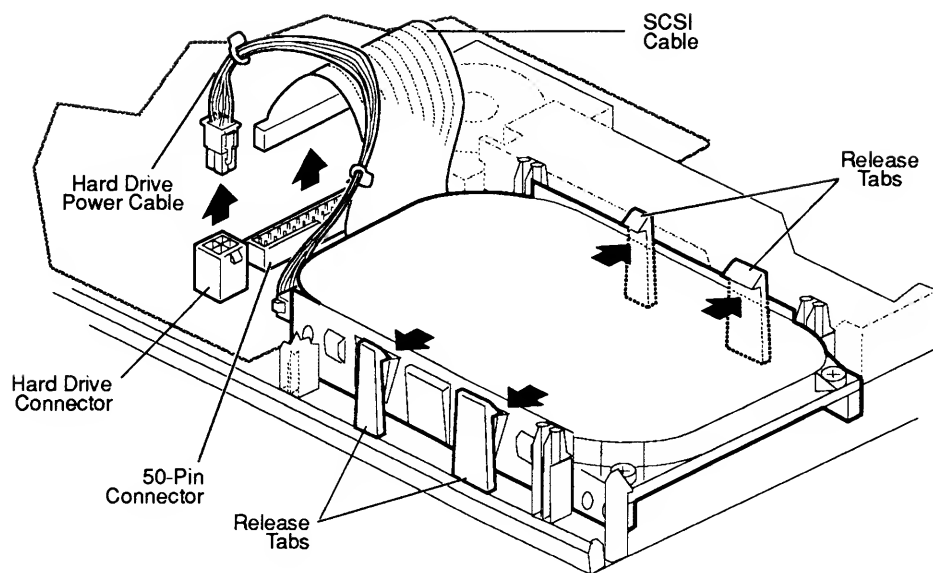

Figure 2-2 Removing the Hard Drive
2. **Figure 2-2.** Disconnect the HDA (hard disk assembly) power cable from the HDA power connector on the logic board. To remove this cable, you must release the locking tab on the side of the connector.
3. **Figure 2-2.** Disconnect the SCSI cable from the 50-pin SCSI connector on the logic board.
4. **Figure 2-2.** Release the two plastic tabs on one side of the hard drive, and lift the drive slightly. Repeat on the other side of the hard drive and remove the drive (with its carrier) from the computer.
5. **Figure 2-2.** Position the hard drive so the metal tabs on the carrier align with the four plastic release tabs on the bottom case. Push the drive into the bottom case until the drive snaps into place.
6. **Figure 2-2.** Connect the SCSI cable to the 50-pin SCSI connector on the logic board.
7. **Figure 2-2.** Connect the square end of the power cable to the HDA power connector on the logic board. Be sure that the cable locks into place.